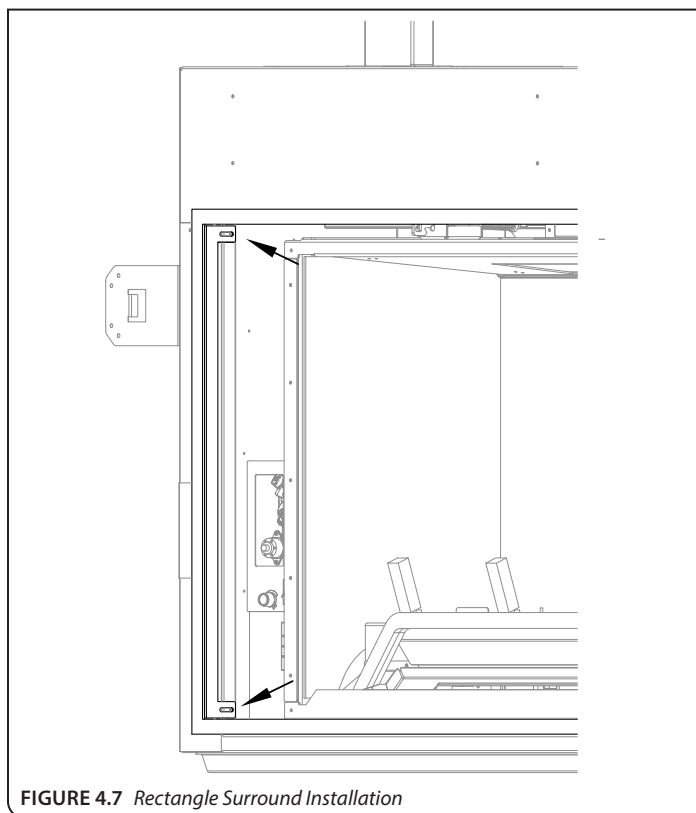

FIGURE 4.7 Rectangle Surround Installation
2. Align the slots in the surround with the holes in the inner edge of the outer shell of the fireplace (**FIGURE 4.7**). Adjust the depth to accommodate finishing material.
3. Secure the surround to the fireplace with the provided (4) screws.